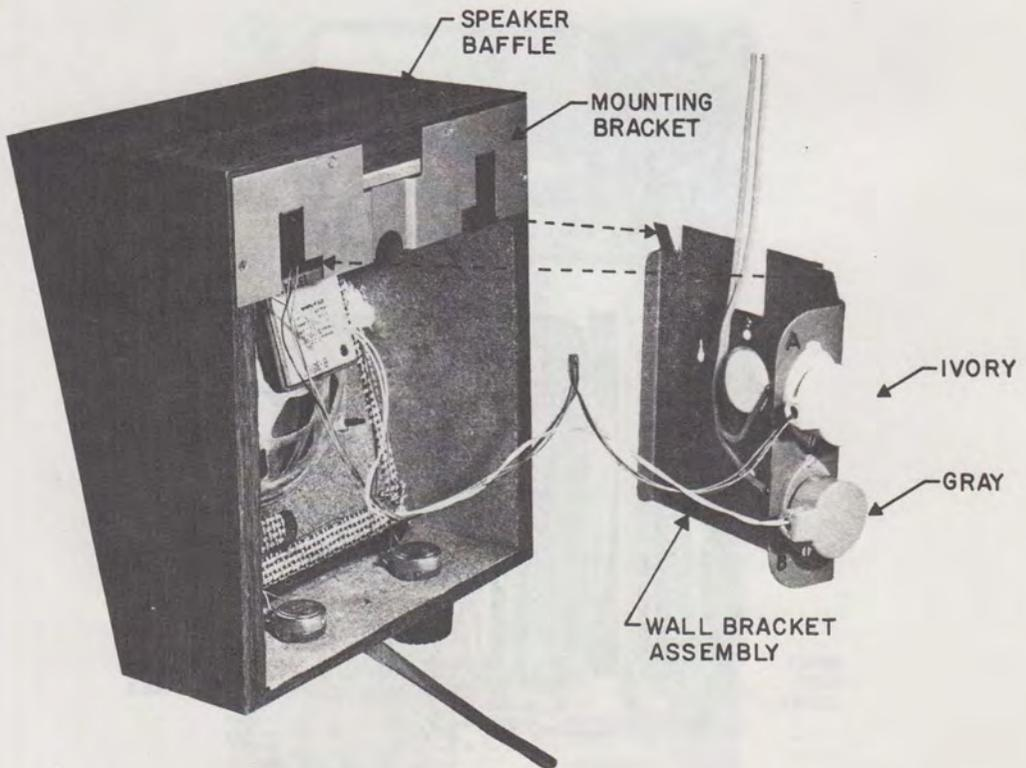

FIGURE 11. 109 A LOUDSPEAKER SET
- (3) For connections see paragraphs 4.04 and 4.05.
- (4) Connect plug A of loudspeaker into jack A of wall bracket assembly and plug B into jack B, ivory to ivory and gray to gray, respectively (Figure 11).
- (5) Slip the speaker baffle mounting bracket over the mounting clips on the wall bracket assembly and pull the speaker down until it is firmly held (Figure 11).
- 4.04 Connect +V, COM, and DSS to jack A (ivory) of the wall bracket assembly (Figure 11) per Table B.
- 4.05 If music is provided, connect terminals 5 and 6 of the 33A voice coupler to terminals R and G of jack B (gray) of the wall bracket assembly (Figure 11) using inside wire.